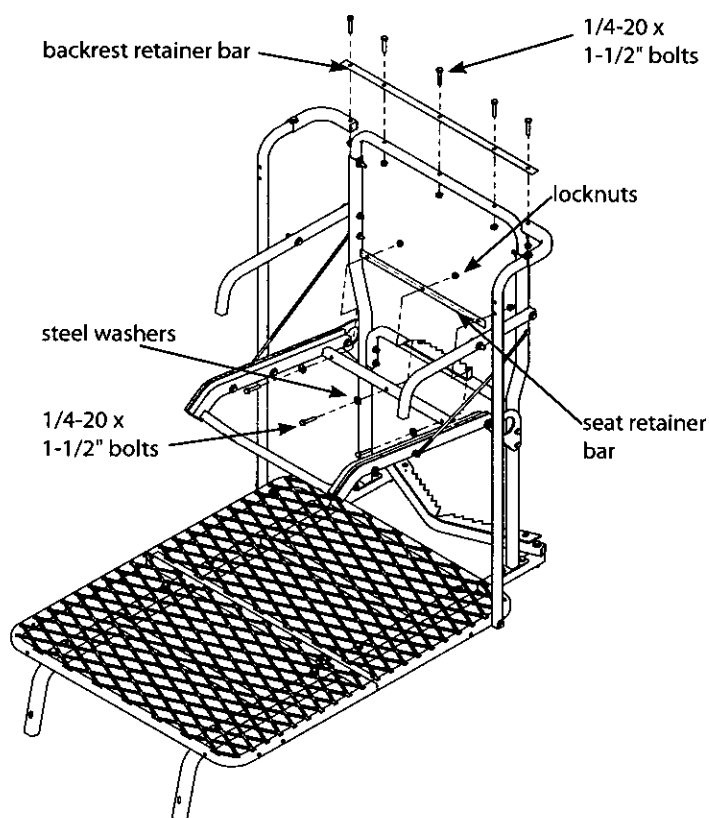

Figure 9a
12. a. Attach the bottom of the mesh backrest (360007) and the seat retainer bar (410010) to the rear of the welded seat frame using (3) provided 1/4-20 x 1-1/2" bolts, locknuts and steel washers. **SEE FIGURE 9a and 9b on following page.** The mesh backrest must wrap around the front, bottom, and back side of the seat frame tube; the plastic stiffening rod located in the sewn sleeve of mesh backrest **MUST** be positioned above the seat retainer bar to act as a stop and prevent the backrest from pulling out during use. All bolts **MUST** go through the seat retainer bars, both sets of holes provided in the mesh backrest and the seat frame tube. **Tighten these three bolts securely at this time. Do not crush tubing when tightening!**
b. With the seat pivoted up in the flip-up position (to allow for slack), attach the top of mesh backrest and the backrest retainer bar (410079) to the seat upright loop using (3) provided 1/4-20 x 1-1/2" bolts and locknuts. **SEE FIGURE 9a and 9b.** The mesh backrest must wrap around the top side of the seat upright loop and the plastic stiffening rod located in the sewn sleeve of mesh backrest **MUST** be positioned behind the backrest retainer bar to act as a stop and prevent the backrest from pulling out during use. All bolts **MUST** go through the backrest retainer bar, holes provided in the mesh backrest and the seat upright loop. **Tighten these three bolts securely at this time. Do not crush tubing when tightening!**
13. Attach the (2) curtain rail J-pipes (410020) to the backrest retainer bar using (2) provided 1/4-20 x 1-1/2" bolts and locknuts. **SEE FIGURE 9a.**